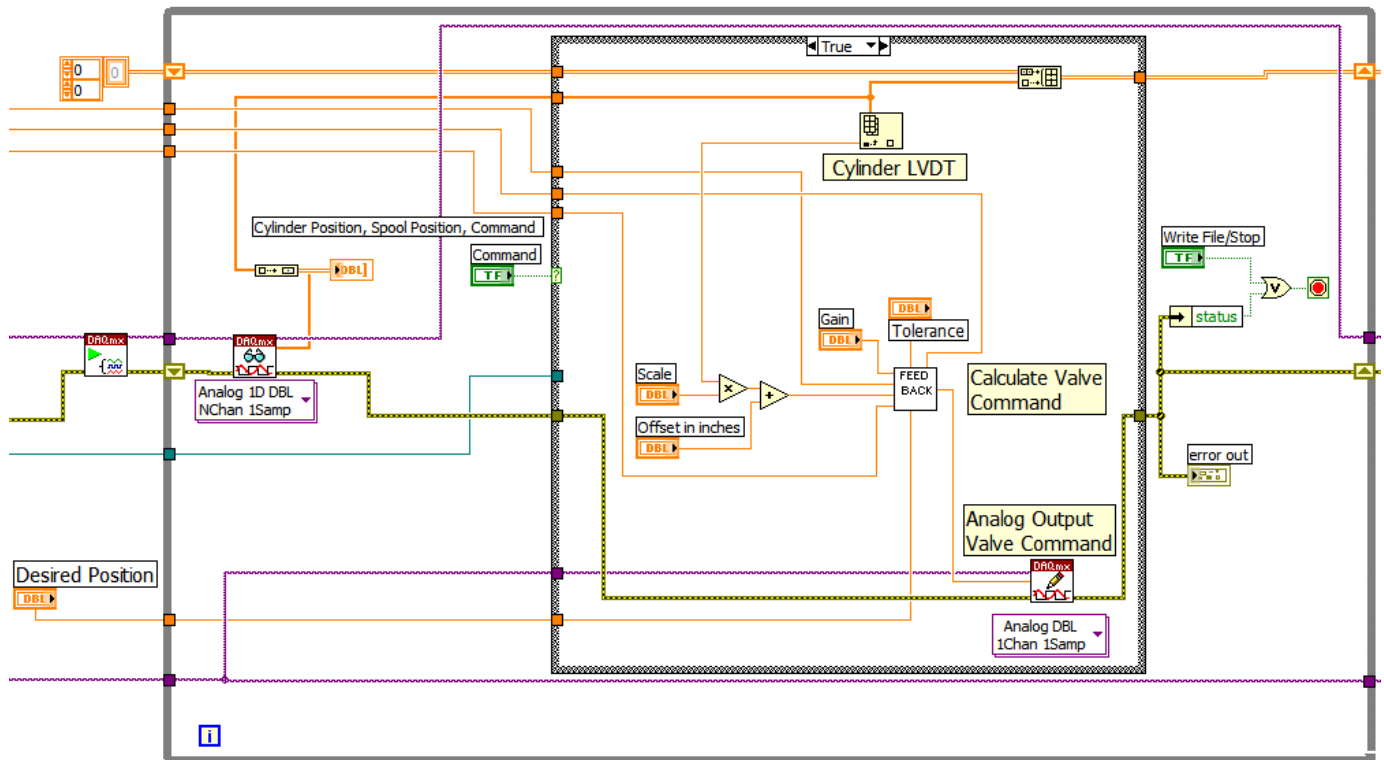

Fig. 5. The Control Loop with the Command Button **ON**
- As a result of this *point-by-point* process, this program must run at much *slower sampling rates* than the open-loop data acquisition program. The *amount* of data collected (and the size of the file) is dependent on the amount of time the user leaves the *Command* button *ON*. The block diagram of this segment with the *Command* button *ON* is shown in *Fig 5*.